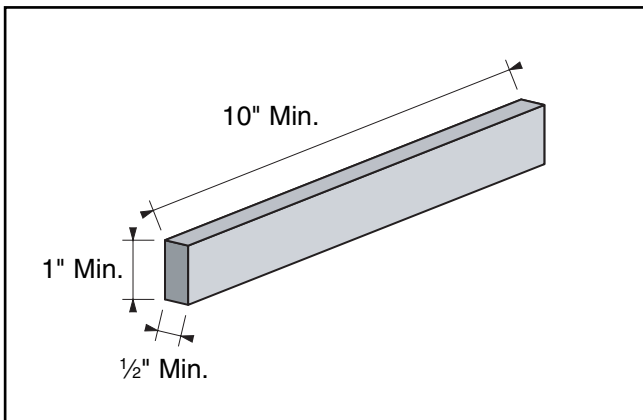

Figure 22. Minimum dimensions for edge jointing.
- **Make sure the stock meets the minimum dimension requirement (Figures 22 and 23) before edge jointing or surface planing.**